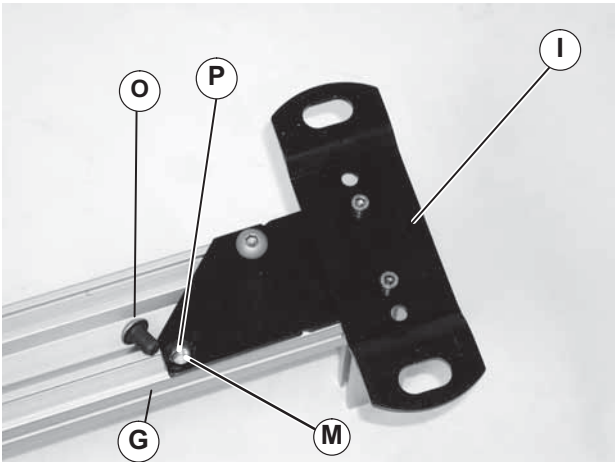

Figure 4
4. Align hex nuts (Figure 4, item M) with leg holes (P). Attach leg assembly (I) to cross tube (G) with button screws (O). Do not tighten screws.